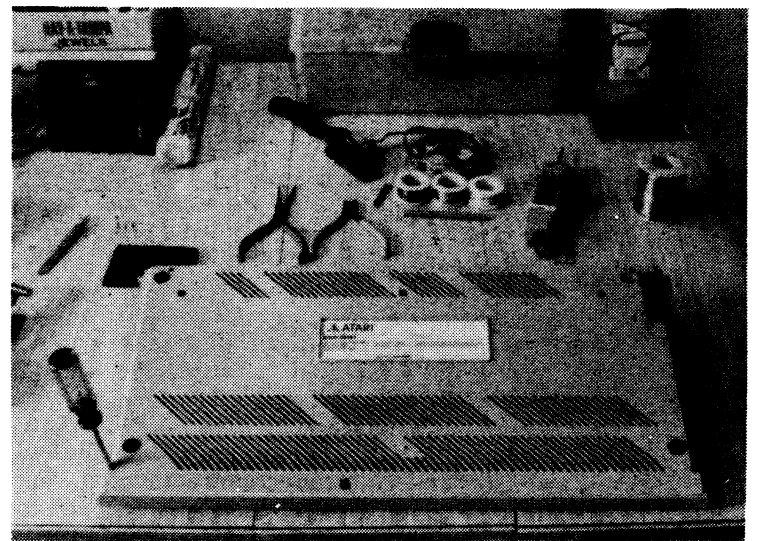

Fig.1 — tools for Atari 520ST & Modification
O.K., lets get down to the nitty-gritty. You decided you want to do this, and you are confident of your ability to do the job. The tools (See Figure 1) you will need are:
For simplicity's sake, let's start off with the circle generator provided in the *520ST BASIC Sourcebook* on page C-156. The program given illustrates what can be done with the GEM system and establishes a pattern that can be extended. I have modified the original program slightly to center the circle on the screen and to enlarge it. See figure 1 and program on page 180.